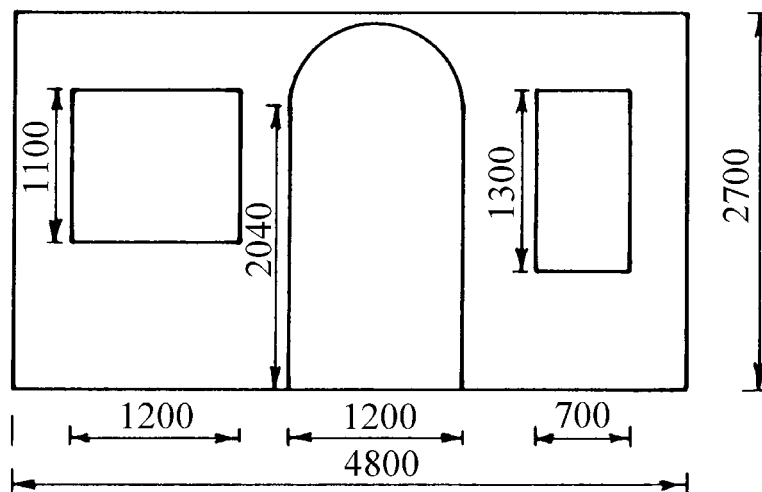

Fig. 2
4. Figure 2 shows the dimensions of a wall to be clad at a cost of £8.80 per square metre.